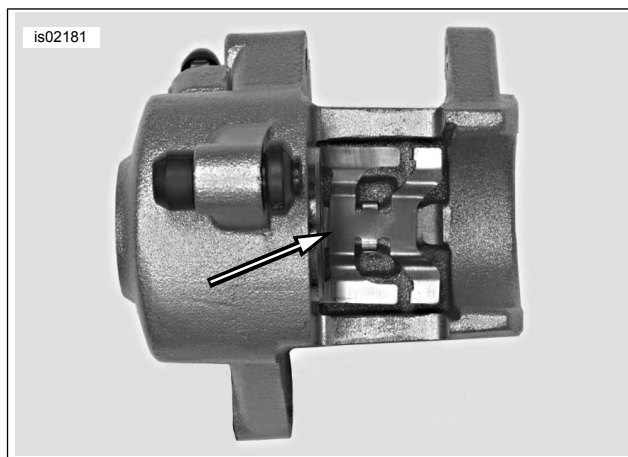

Figure 4. Rear Caliper Pad Spring
See Figure 4. When replacing rear brake pads, make sure caliper pad spring does not become dislodged and fall out. If it does, install it before installing new pads.
- Caliper pad spring orientation must match Figure 4.